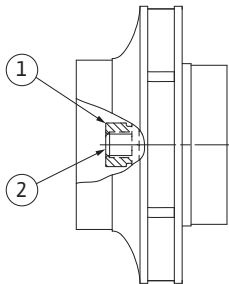

Fig. 53: Correct position of the impeller nut after the installation
29. Hold on to the shaft (see step 24) and tighten the impeller nut with the specified tightening torque (see list "Table 11: Screw tightening torques" on page 117). The nut (Fig. 53, Item 1) has to be about  $\pm 0.5$  mm flush with the end of the shaft (Fig. 53, Item 2). If this is not the case, release the nut and repeat steps 25 to 29.